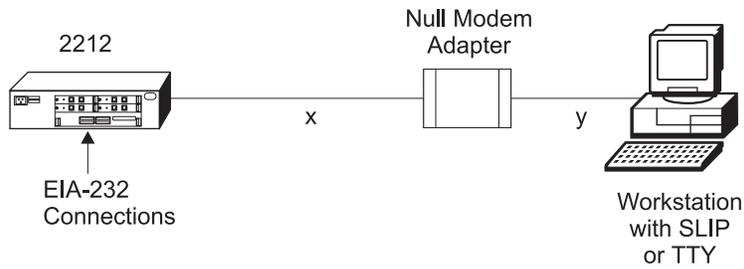

Figure 3-1. Local Terminal Connection to the EIA-232 Service Port
- Locally through a null-modem adapter and serial cables supplied with this product that are attached to the EIA-232 service port using an ASCII or SLIP connection. See Figure 3-1 on page 3-2.
Attach an ASCII terminal or emulator (with the appropriate emulation software) to provide local or remote access to the IBM 2212. When locally attaching a terminal to the IBM 2212 service port, the speed (baud rate) configured for the service port must match the speed of the connected terminal (x and y in Figure 3-1 on page 3-2). When connecting a IBM 2212 to a remote terminal by two modems